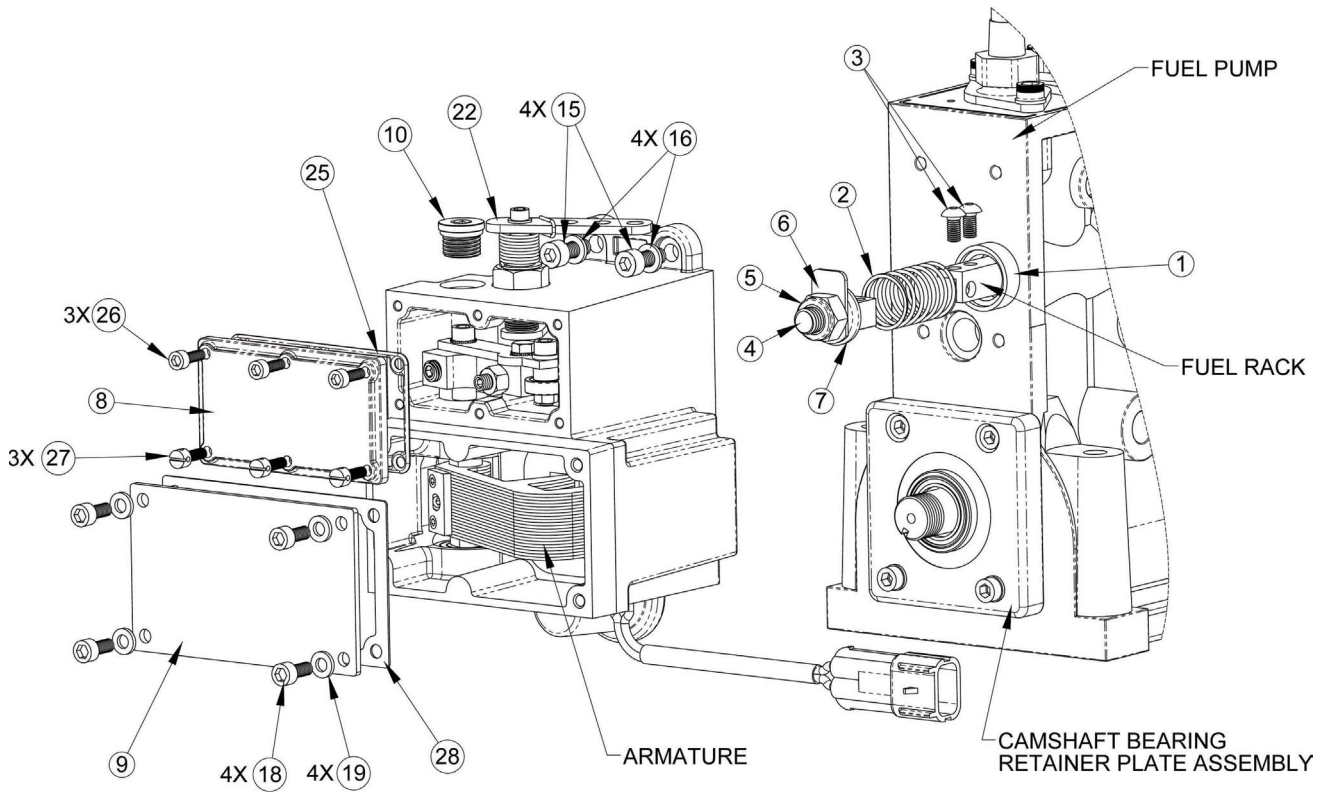

FIGURE 1-1
1. Place the spring seat (1) over the fuel rack and slide it to the body of the fuel pump (see Figure 1-1). Slide the fuel rack return spring (2) over the fuel rack and against the spring seat. Attach the rack connection link assembly (4, 5, 6, 7) to the fuel rack with two M5 X 10 mm long retaining screws (3) that include patches of Loctite adhesive. Torque the screws to 3-4 NM.